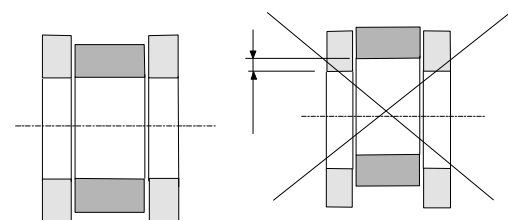

Fig. 1
- 1.2 Align the bolt hole. The middle section must line up with the support on each side (see fig. 1). Use a jack or hoist if necessary.